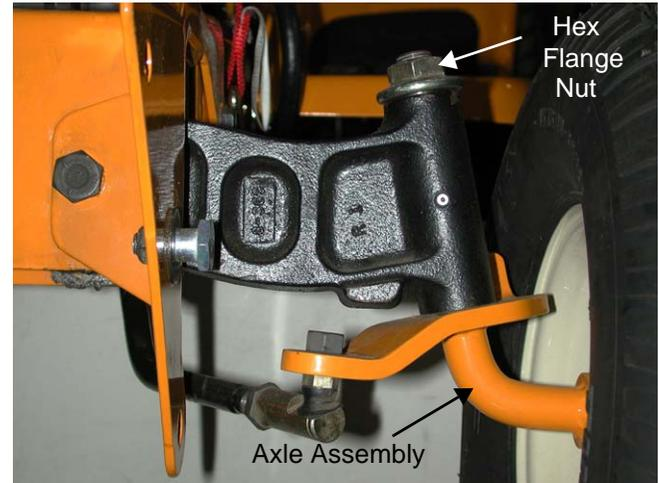

Figure 37.10
37.10. Loosen the large hex flange nut securing the left axle assembly to the pivot bar using a 15/16" socket. See Figure 37.10.